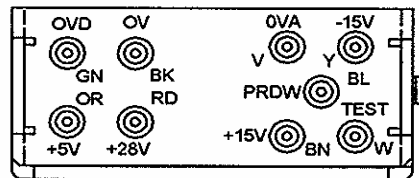

Figure 2 – Terminals Power Supply Module
- (16) Secure and make good wiring looms as previously noted with braiding lace.
- (17) Take two black bonding wires (Ring terminations) fitted to Filter Panel Assembly, identified at Paragraph 3. C. (3). Fit the ring terminations bonding wires to M3 screw (280) fitted to the Rear Panel (270) and secure with M3 nut (285) and washer (295) kept at Paragraph 3. B. (6).
- (18) Take new Power Supply Module (PNR: 002PM020000). Place and support the Power Supply Module into position with the Filter and Power Supply Assembly (135). Refer to Figure 2 below. Take the wires unsoldered at Paragraph 3. B. (8) and resolder wires to the new Power Supply Module.